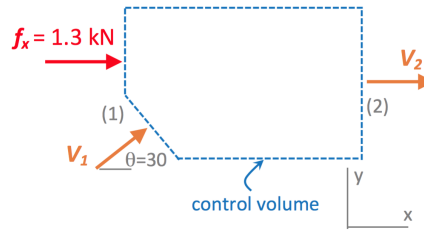

Figure 9: See problem 4.
**Solution:** *Control volume:* We use the control volume shown in Figure 9, that has only one inlet and one outlet. The flow is steady.